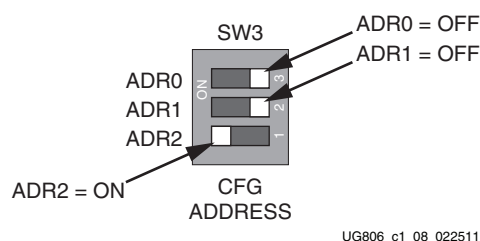

Figure 1-8: Configuration Address DIP Switch (SW3)
4. Select the GTH IBERT demonstration with the System Ace™ controller CFG ADDRESS switch, SW3. The setting on this 3-bit DIP switch (Figure 1-8) selects the file used to configure the FPGA. A switch is in the ON position if it switched towards the ON text printed on the DIP; otherwise, it is OFF. For the Quad 117 GTH IBERT demonstration, set: ADR2 = ON, ADR1 = OFF, and ADR0 = OFF.